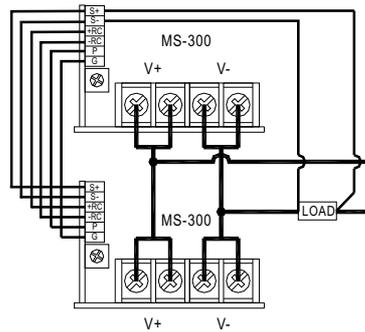

Figure 3-4 Operating in parallel connection
- ⊙ Please connect the output terminal of each output module in parallel first and then connect to the load as shown in Figure 3-4.